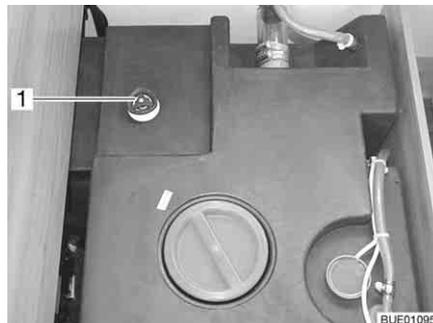

Fig. 151 Water tank with handle
- Turn the handle (Fig. 151,1) on the water tank in an anticlockwise direction as far as possible beyond the resistance to fully open the drainage opening.